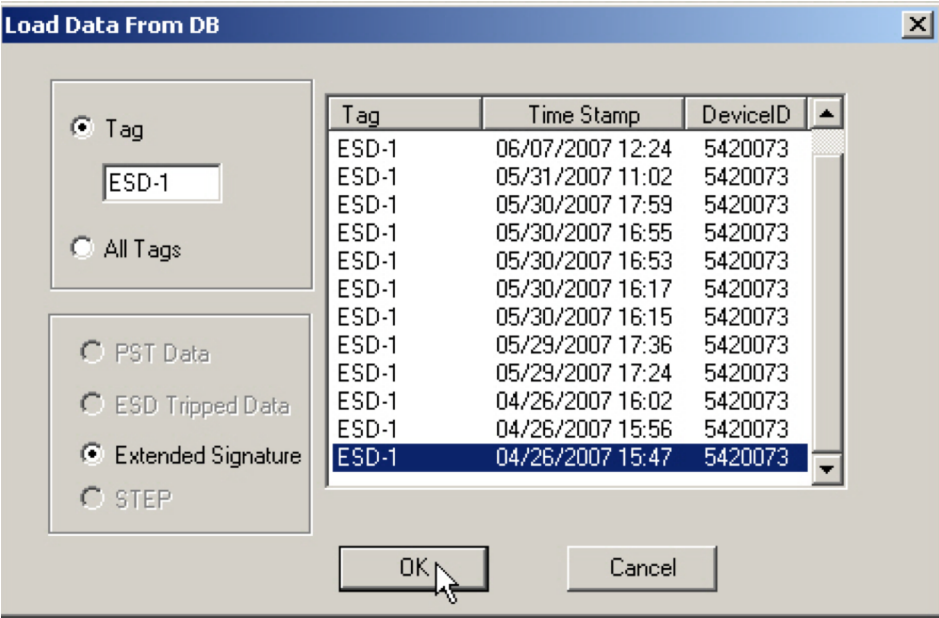

Figure 214 - Loading Extended Signature Data
3. Scroll through the list of data files until you locate the file with the appropriate time stamp and click **OK** (*Figure 214*).